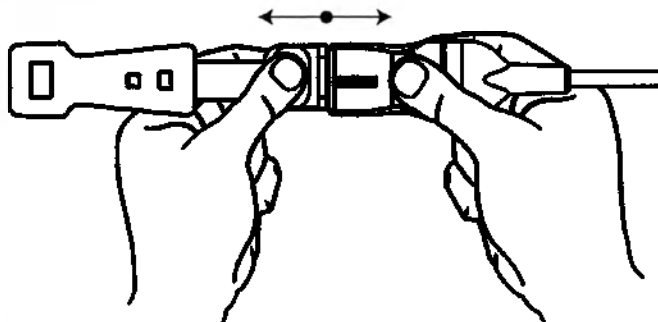

Figure 24: Disconnecting a Sensor from the Preamp Cable
2. Grasp the connector end of the Sensor and gently pull it straight out of the Preamp cable connector (Figure 24).